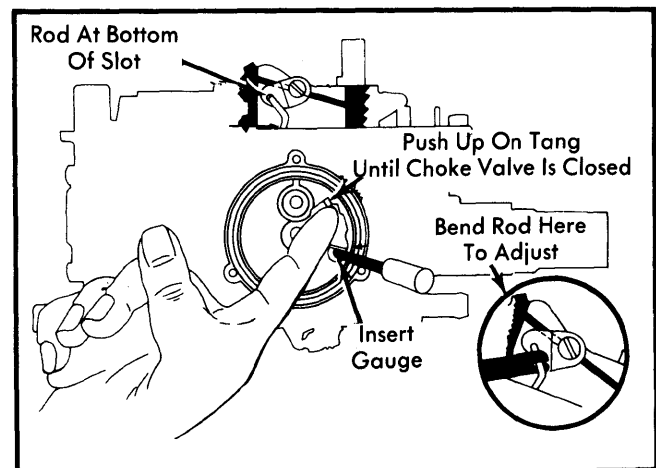

Fig. 4 Adjusting Choke Coil Lever
- 1) Drill out rivets retaining choke cover assembly, and remove choke cover. Remove coil assembly from choke housing. Press upward (counterclockwise) on thermostatic coil tang until choke valve is closed. See Fig. 4.
- 3) Lower edge of lever should just contact drill or pin gauge. Bend choke rod at point shown to adjust. See Fig. 4. Install choke cover and coil, using self-tapping screws supplied in service kit.